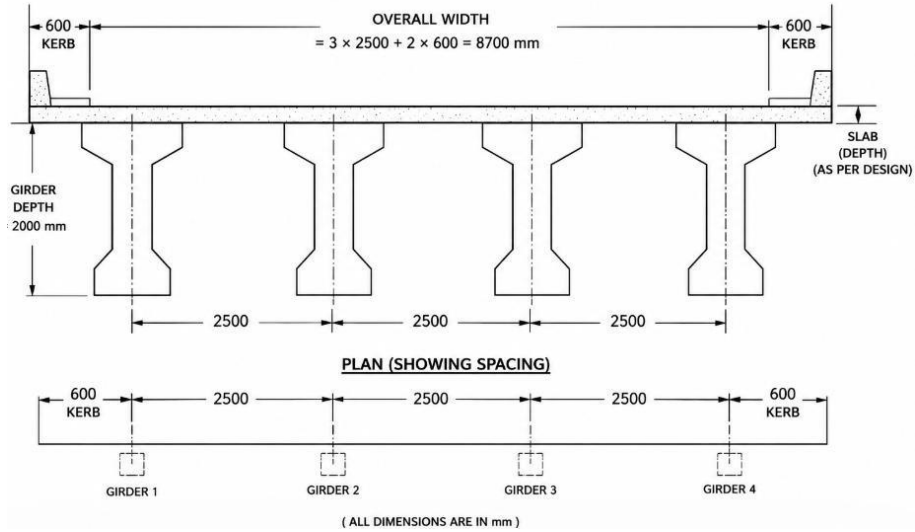

Figure 2
22. A post-tensioned concrete bridge consists of four girders as shown in figure 2 supporting the deck has following data.